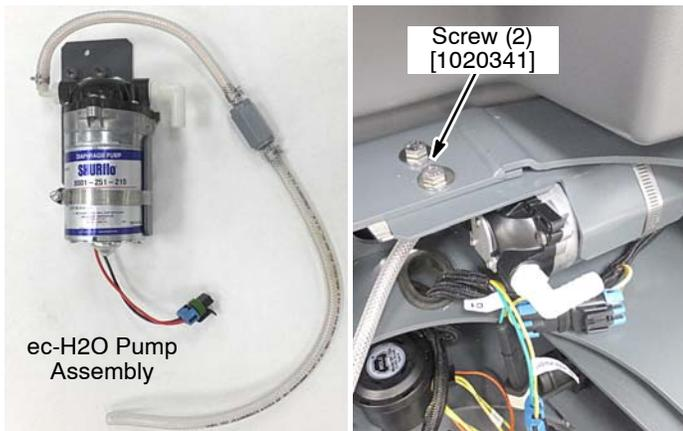

Fig. 18
- Using two M8x1.25x20 hex sems screws, connect the ec-H2O pump assembly to machine frame as shown (Figure 18).